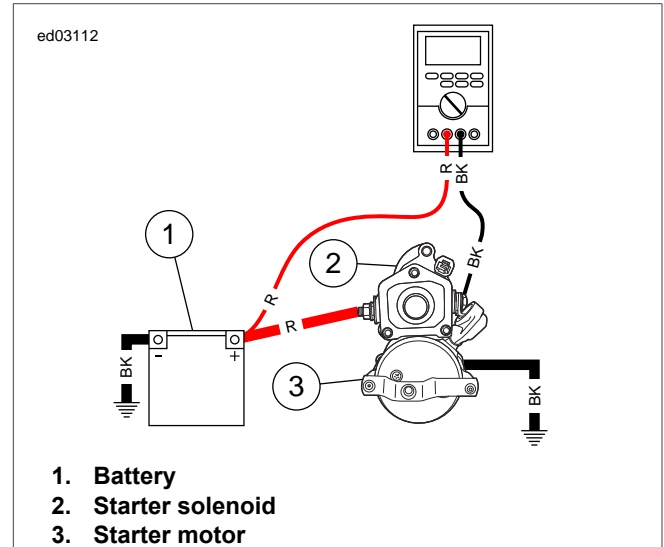

Figure 1-12. To Starter Solenoid Starter Terminal
- a. See Figure 1-12. Connect red meter lead to positive battery post.